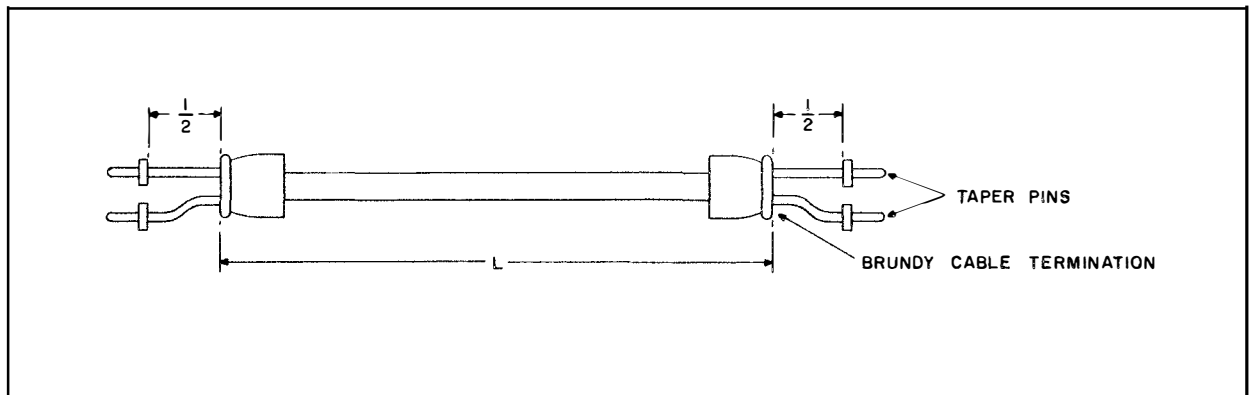

Figure 6-2. Antenna Coupler CU-872/U, Typical Cable Assembly
Step 3. Make new cable as shown in figure 6-2. Use length found in step 2 as the dimension L.